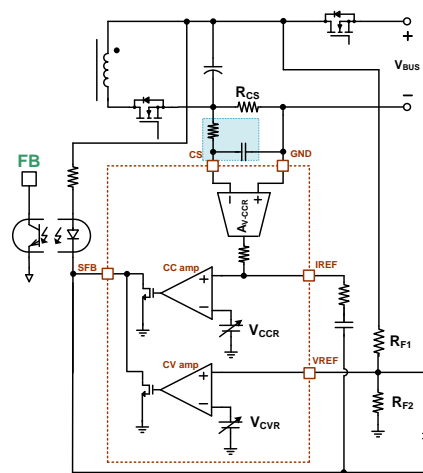

Figure 24 Constant Voltage and Constant Current Circuit
The internal constant voltage control block regulates adaptive output voltages. Output voltage is sensed through an external resistor divider. The sensed output voltage is connected to the VREF which is the non-inverting input terminal of the internal operational amplifier. The inverting input terminal is connected to the internal voltage reference ( $V_{CVR}$ ) which can be adjusted according to the requested output voltage via Quick Charge 3.0 protocol. The amplifier and an internal switch operate as a shunt regulator. The output of the shunt regulator is connected to the external opto-coupler, and this pin is named as Secondary Feedback (SFB). To compensate output voltage regulation being stable, one capacitor and one resistor are connected typically between the SFB and VREF pins as shown in Figure 24. The output voltage can be derived as shown in equation (1) and the recommended ratio of the resistor divider is 5.
In order to support adaptive constant output current, FAN6291Q incorporates the constant-current control circuit internally. Output current is sensed via a current-sense resistor,  $R_{CS}$ , which is connected between the CS pin and GND pin. The sensed signal is internally amplified, and this amplified voltage is connected to the non-inverting input of the internal operation amplifier. Likewise the constant voltage amplifier circuit, it also plays a role as a shunt regulator to regulate the constant output current. In order to compensate output current regulation, one capacitor and one resistor are connected between IREF and SFB pins typically as the Figure 24. The constant output current is decided by the equation (2). 30 mΩ is typically used for the sense resistor.
Since CS pin senses small amounts of voltage, the sensing resistor should be positioned as close as possible to CS pin. Shown in Figure 24, an RC low pass filter can be added on the CS pin to be immunized from noise.